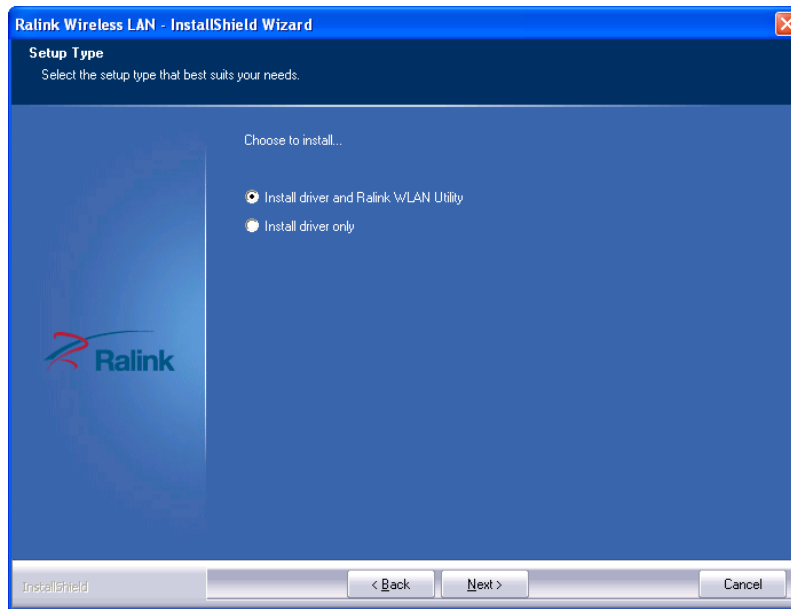

Figure 5-35: Setup Type
- Step 6:** The **Setup Type** screen in **Figure 5-35** appears.